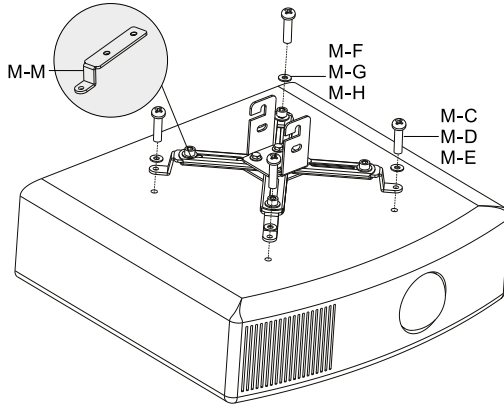

fig.4.1
- Place the projector upside down, place adapter bracket on the back of projector, as close as possible to projector center of gravity, using one arm for each mounting hole, position the holes of arms over mounting holes. You can replace the channel foot according to mounting holes position as shown in fig.4.1.
- Attach the adapter bracket to the back of the projector using the appropriate combination of screws, washers, as shown in fig.4.1.